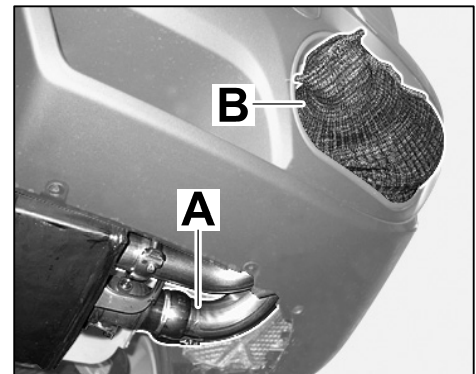

Figure 37
- 7.2.1 Move tailpipe with protective tube ⇒ *Figure 37 -B-* into installation position.
- 7.2.2 Tighten front tailpipe clamp ⇒ *Figure 37 -A-* slightly but ensure that the tailpipe can still be moved.